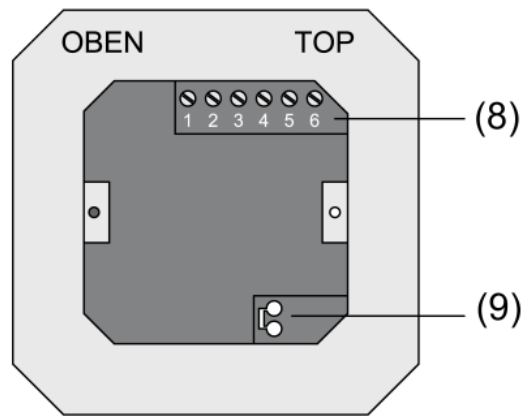
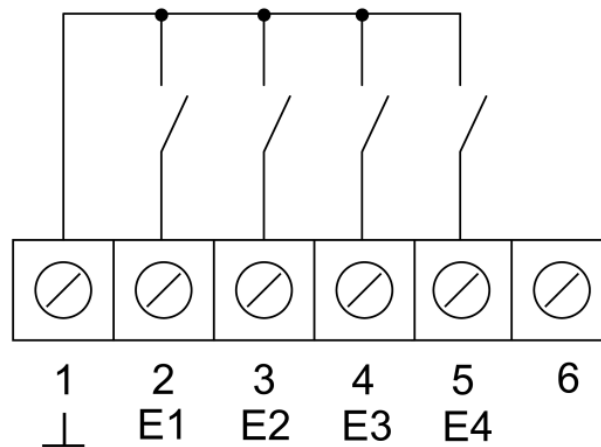
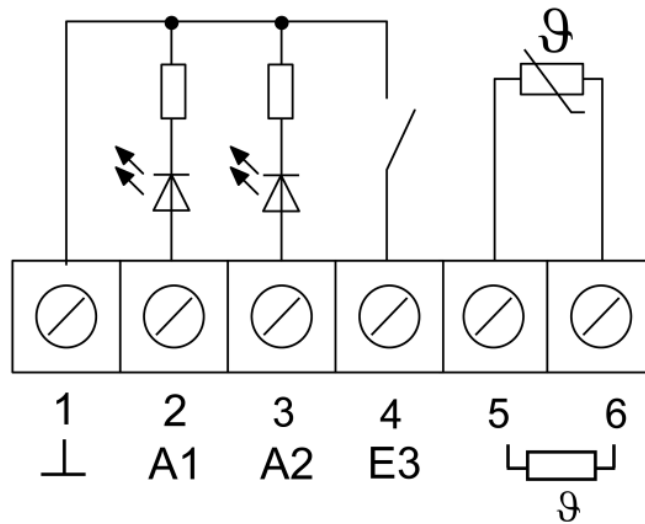

Figure 2
Figure 3
Figure 4
- Connect the bus line to the device connection terminal (9) in the connection terminal insert (see figure 2).
- Binary inputs E1...E4: Connect the NO or NC contact as switch or push-button to the connection terminals 1 and 2...5 (see figure 3) of the terminal strip (8)(see figure 2).
- Binary outputs A1...A2: Connect the LED or electronic relay to the connection terminals 1 and 2, 3 (see figure 4) of the terminal strip (8) (see figure 2).
- Connect the external temperature sensor to the connection terminals 5 and 6 (see figure 4) of the terminal strip (8) (see figure 2).
- Insert the connection terminal insert (1) in the flush-mounted appliance box. Observe the labelling OBEN / TOP.
The bus connection (9) (see figure 2) must be at the bottom, right.